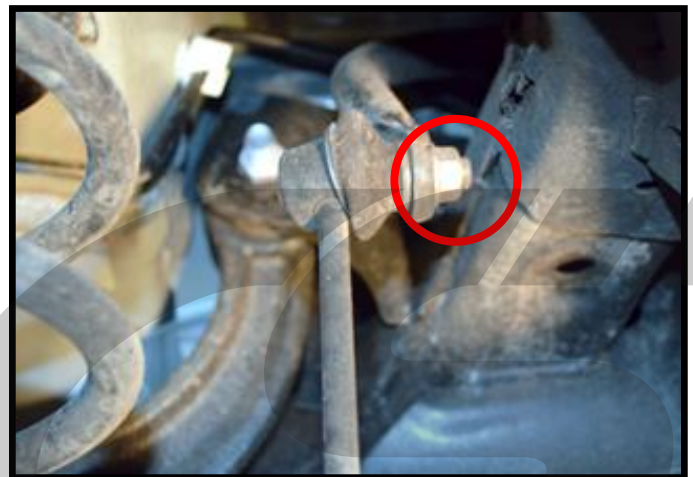

Figure 2b
- c) Remove the rear sway bar end link nut using the 5mm Allen wrench to hold the center of the endlink and a 14mm end wrench to loosen the nut. Figure 2b shows the driver's side end link and nut location.